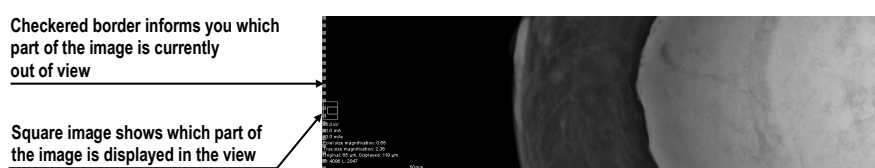

Figure 79 – Active checkered border
- The **Show checkered border when the entire image is not displayed** check box. If it is checked and the image in the mammography view is scaled in such a way that parts of the image is out of the view, the image is partially bordered with a checkered line to indicate which part of the image is displayed outside of the view (see Figure 79).